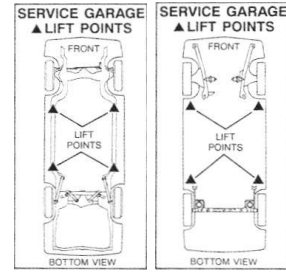

FIGURE 18 : TYPICAL LABEL DRAWING SEA J2184
THE LIFTING POINTS ARE IDENTIFIED BY HOLES, BOSSES, AND/OR DEPRESSIONS IN THE SHAPE OF AN EQUILATERAL TRIANGLE OR A SUPPLEMENTAL, SUCH AS A LIFT PAD, IDENTICAL TO THE TRIANGLE UNDER CAR BODY. REFER TO ALI/LP-GUIDE OF THE LAST 20 YEARS CAR MODELS. SEE **FIGURE 18.**
6. ALIGN THE 4 LIFTING PADS UNDER LIFTING POINTS RECOMMENDED BY VEHICLE’S MANUFACTURER. SEE **FIGURE 18**.